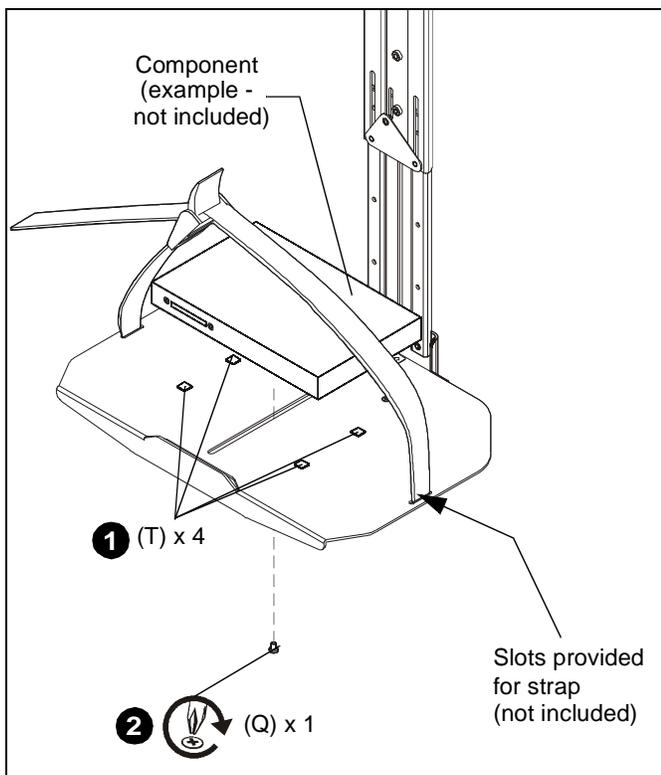

Figure 14
**WARNING:** Components must be secured to FCA812 shelf using either adhesive hook and loop squares (T) or screw (Q)! Failure to securely components to shelf may result in serious personal injury or damage to equipment!
**NOTE: OPTIONAL:** Slots are provided in shelf for strap (not included) to hold components in place. (See Figure 14)
2. (Single Screw option) Install 1/4-20 x 3/8" Phillips pan machine screw (Q) through mounting slot on shelf and into hole on bottom of component (if applicable). (See Figure 14)